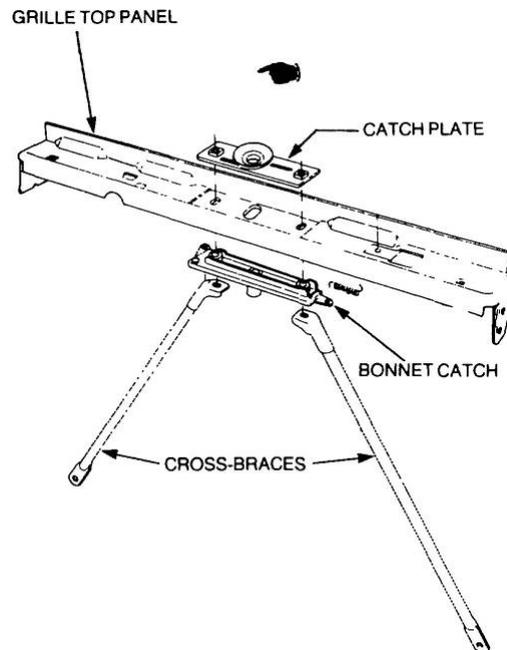

Figure 16 Installation of the Bonnet Catch
- bb.** Position the catch plate on the grille top panel (Figure 16), then position the bonnet lock and one cross-brace under the top panel and secure it with one retaining bolt and washers, but only finger tight. Install the second cross-brace and secure the cross-brace and bonnet lock with the retaining bolt and washers, finger tight. Position the bottom of each cross-brace in its respective bracket and secure them with the retaining bolt, washers and nut. Tighten the cross-brace retaining bolts and grille panel retaining bolts securely.